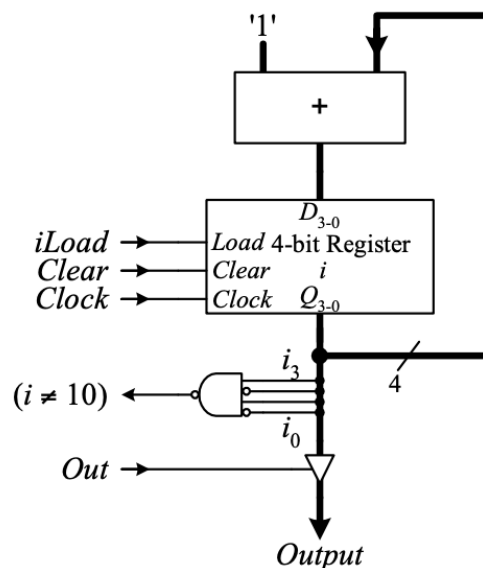

Figure 2: Dedicated data path for counting 1 to 10
We have derived the three corresponding control words for these three data manipulation instructions for controlling the dedicated datapath shown in Figure 2. These three control words are shown here in Figure 3.
1. Write a VHDL file that defines a datapath using the structured depicted in Figure 2. Your code should include a 4-bit adder, 4-bit register with load and clear, a 4-bit comparator and a quad tri-state buffer. Compile the circuit. How many logic elements (LEs) are used to implement your circuit?